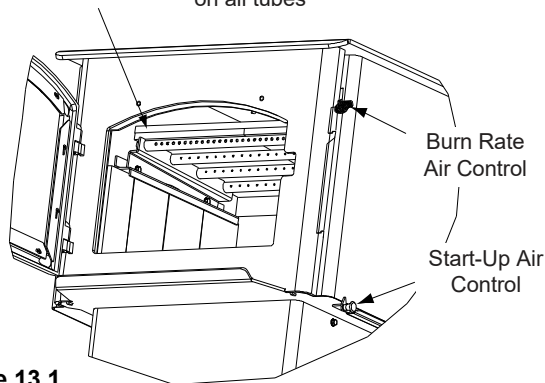
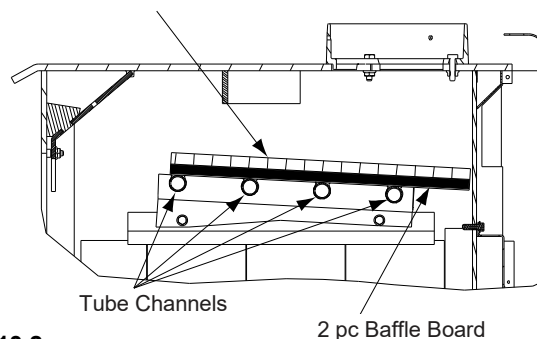

Figure 13.1
Figure 13.2
1. Confirm the baffle is correctly positioned. It should be even with the front tube and resting on all tubes (**Figure 13.1 and Figure 13.2**).